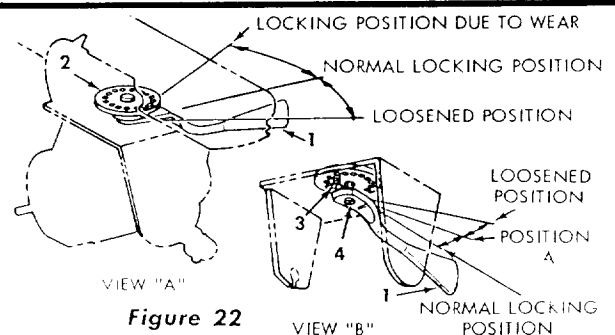

Figure 22
The normal locking position of the yoke clamp handle (1, View A, figure 22) is midway between the two sides of the yoke.
2. Set yoke clamp handle to Position "A", (View B, figure 22) (midway).
3. Remove lock screw (3).
4. With off-set screw driver turn slotted end of the yoke clamp (4) counterclockwise until a slight snugness of the yoke clamp handle is felt at Position "A".